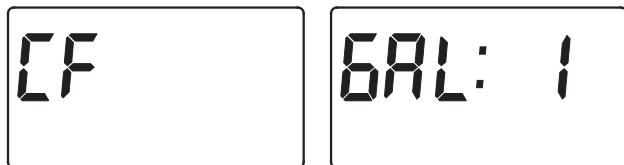

FIG. 26
- 4. CHEMICAL FEEDER TRIP VOLUME:** If you have set the auxiliary output control to CF (Chemical Feeder), you will need to set the volume of water which must flow past the turbine before the auxiliary output is turned on. With the alternating screens in Fig. 26 shown, use the ↑ UP or ↓ DOWN buttons to set the trip volume, in gallons.